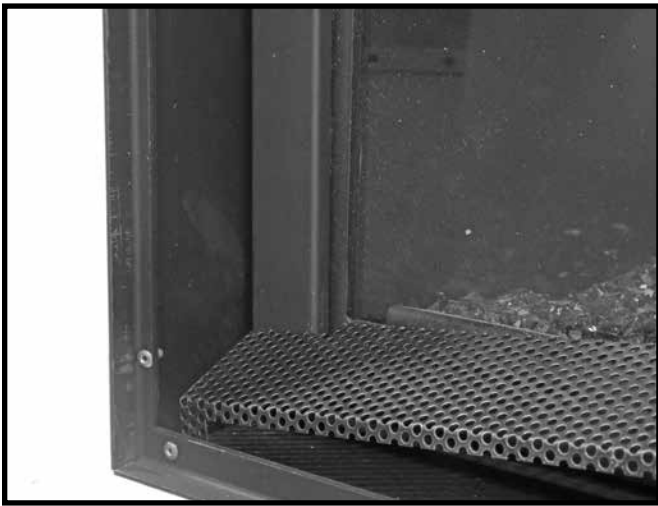
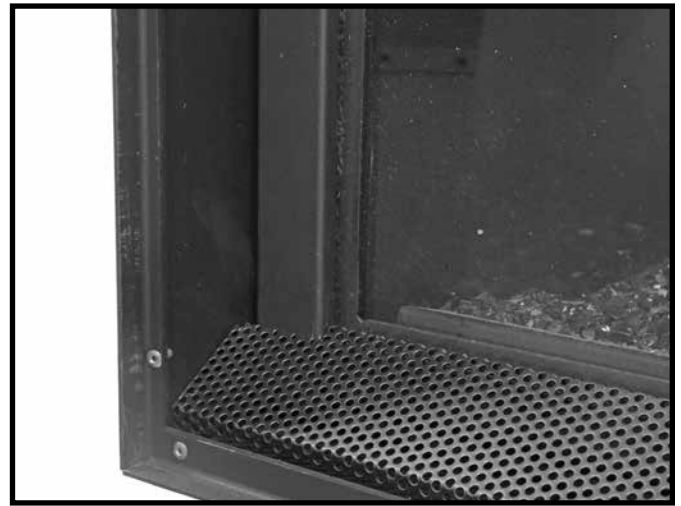

Figure 82: Installing bottom trim.
Figure 83: Bottom trim in place.
4. The meshed trim piece for the bottom rests on the floor and in the gap between the outer-most door frame and the fireplace glass (Figure 82 and Figure 83)..